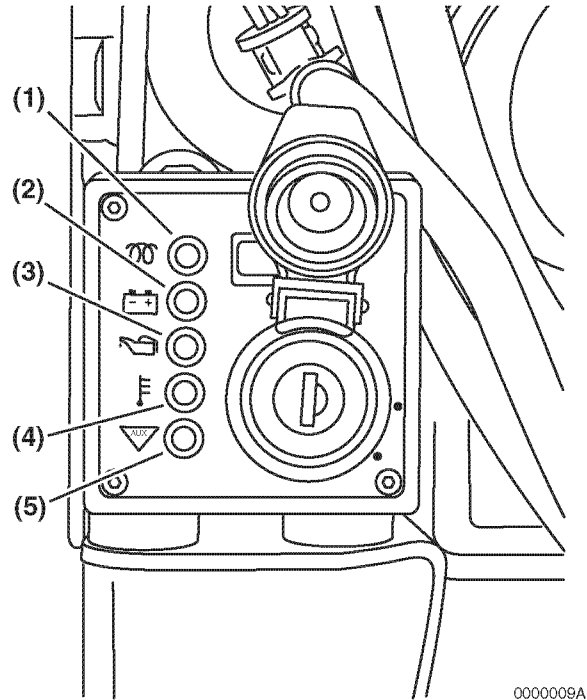
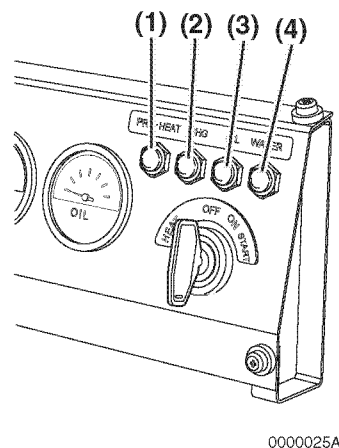
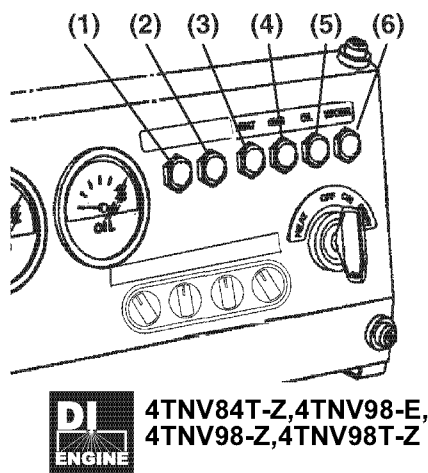

Figure 8
Figure 9
Figure 10
Yanmar TNV engines are available with various operator's consoles. Two typical operator's consoles are shown **(Figure 8)** or **(Figure 9)**.
HEAT (Figure 8, (1)) or (Figure 9, (1)) or (Figure 10, (1)) - Figure 9 shows a typical indicator arrangement on the operator's console. When the key switch is turned to the HEAT position, the HEAT indicator comes on indicating the glow plugs or air heater are/is energized, and stays on for 4 sec. for IDI models with glow plugs or 15 sec. for DI models with glow plugs or air heater. When it goes out, turn the key switch to the START position to start the engine.
Figure 8 shows a typical operator's console having the optional key switch. When the optional key switch is turned to the ON position, the indicator comes on indicating the glow plugs or air heater are/is energized, and stays on for 4 sec. for IDI models with glow plugs or 15 sec. for DI models with glow plugs or air heater. When it goes out, turn the key switch to the START position to start the engine.
Figure 10 shows a typical indicator arrangement on the operator's console of electronically controlled engines. The key switch on the console is available in two types: standard and optional. While the standard type has the HEAT position, the optional type omits the HEAT position and has the ON-glow/ON-air heat capability. Consult the operation manual for the driven machine for the applicability of the key switch types.
Battery Charge (Figure 8, (2)) or (Figure 9, (2)) or (Figure 10, (4)) - Stays on until the engine is running and the alternator is supplying charging current. This indicator does not indicate whether the battery is discharged.
Engine Oil Pressure (Figure 8, (3)) or (Figure 9, (3)) or (Figure 10, (5)) - Stays on until the engine is running and the oil pressure is within normal limits.
Engine Coolant Temperature (Figure 8, (4)) or (Figure 9, (4)) or (Figure 10, (6)) - Stays on momentarily. Comes back on if engine overheats.
Auxiliary (Figure 8, (5)) or (Figure 10, (2)) - Stays on momentarily. Used for special applications.
Fault indicator (Figure 10, (1)) (optional) - Illuminates for approx. 2 sec. when the key switch is turned to ON, and stays off while the engine is running. If a fault occurs in the Eco-governor system or during energization of the E-ECU, this indicator will flash in a certain pattern to indicate what fault has occurred. See the troubleshooting section for details.